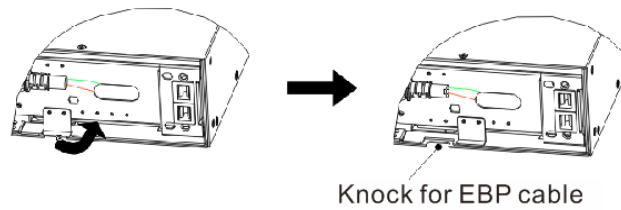

FIG.11 Removing the UPS Cable Knockout
2. On the bottom of the UPS front cover, remove the EBP cable knockout (see FIG. 11).
3. For the bottom (or only) EBP, remove the EBP cable knockout on the top of the EBP front cover. See FIG. 11 for the location of the top EBP cable knockout.
4. If you are installing more than one EBP, for each additional EBP remove the EBP cable knockout on the top and bottom of the EBP front cover. See FIG. 11 for the location of the EBP cable knockouts.